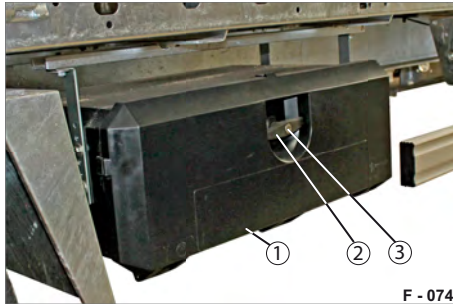
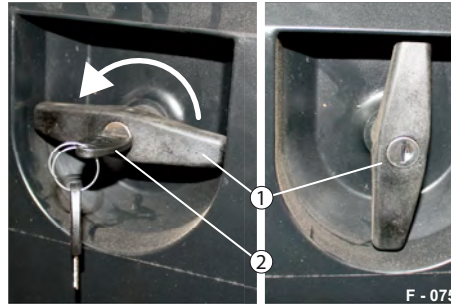

Fig. 100 Toolbox overview
Fig. 101 Handle closed/opened
- Unlock the lid (Fig. 100/1) with the key (Fig. 101/2).
- Turn the handle (Fig. 101/1) anticlockwise.